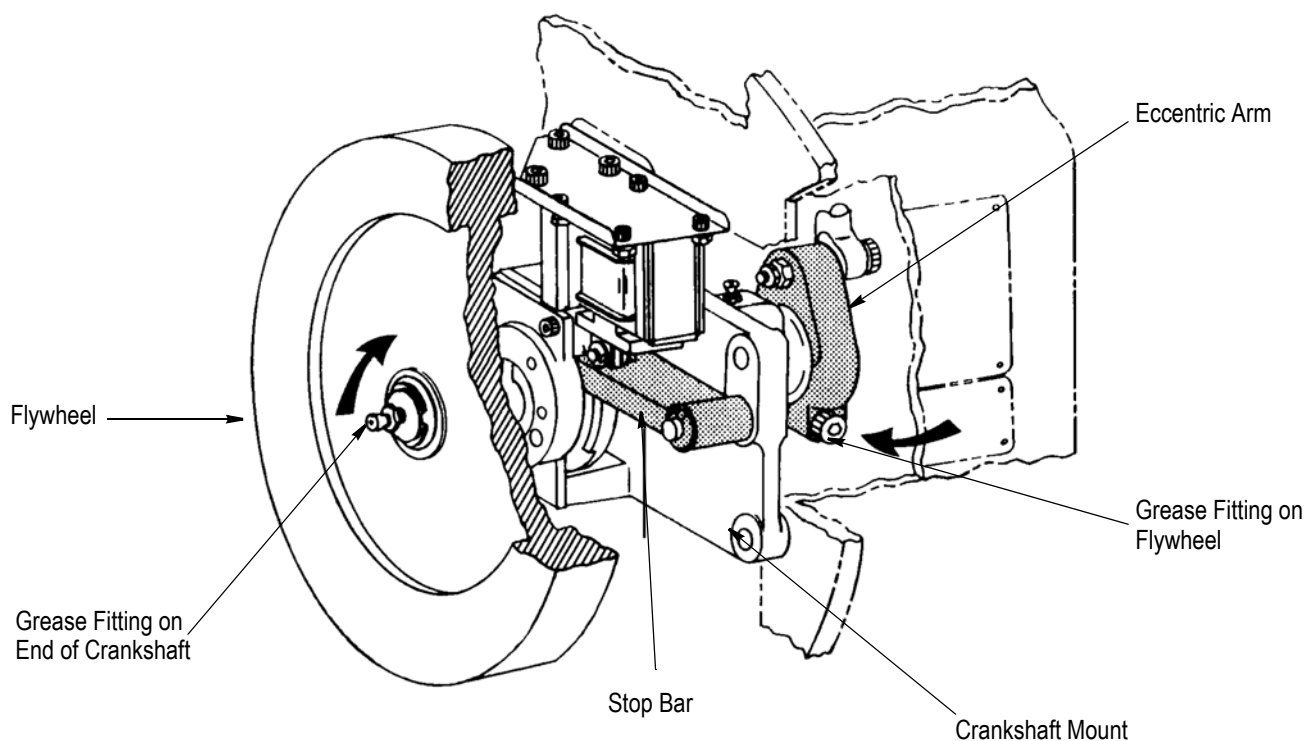

Figure 9
An eccentric arm is keyed to the forward end of the main shaft (see Figure 9). The arm is at TOP-DEAD-CENTER when the machine is in the rest position. Attached to the arm is a spherical bearing link that actuates the toggle lever subassembly.
4.1. Hand Cycling (Figure 9)
3. By hand, slowly turn flywheel in the direction of the arrow as shown in Figure 9 (clockwise, as viewed from the rear of the machine).
5. To reset the machine, use a 7/16-in. wrench to turn the grease fitting on the end of the crankshaft in the direction of the arrow as shown in Figure 9. Use a crescent wrench or 7/16-in. box end wrench to turn the grease fitting on the flywheel in the direction of the arrow also shown in Figure 9.